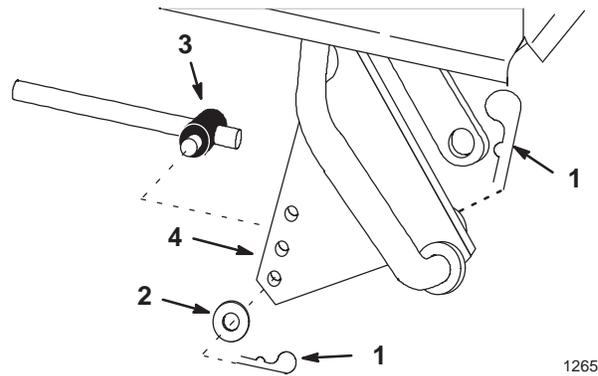

Figure 13
3. Remove hairpin cotter and 5/8" washer from trunnion at lift plate (Fig. 13).
4. Remove hairpin cotter and slide lift plate off attachment lift (Fig. 13).